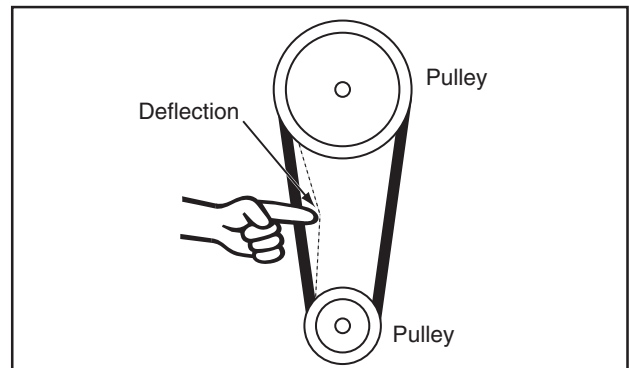

Figure 150. Checking belt deflection.
5. Press the belt in the center to check belt tension. The belt is correctly tensioned when there is approximately $\frac{1}{8}$ " deflection when it is pushed with moderate pressure, as shown in **Figure 150**.